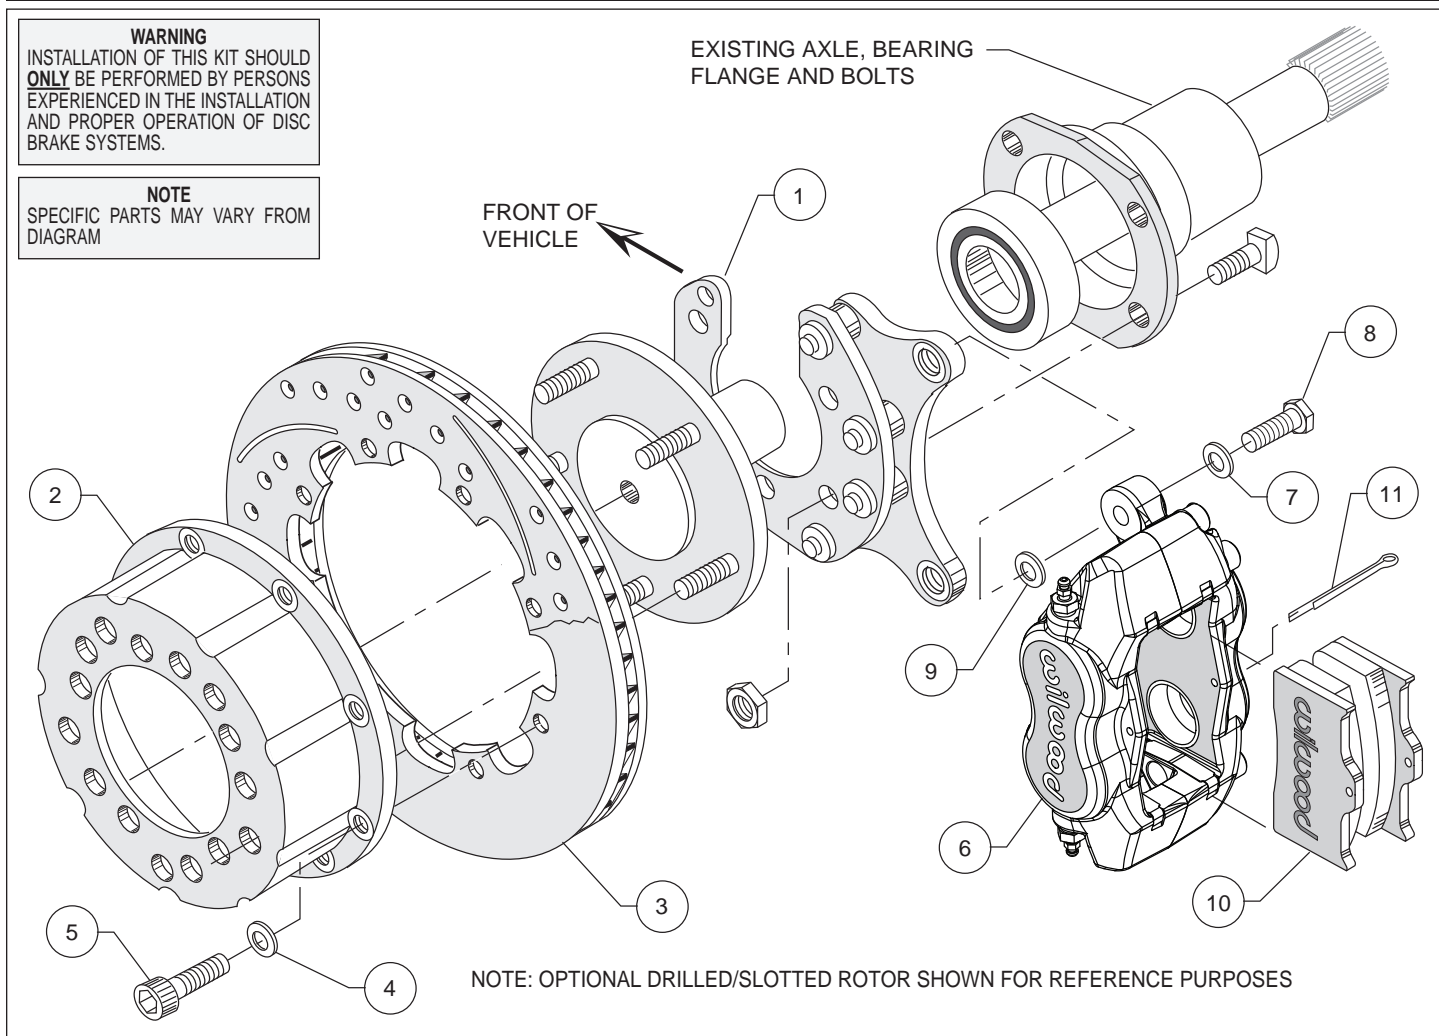
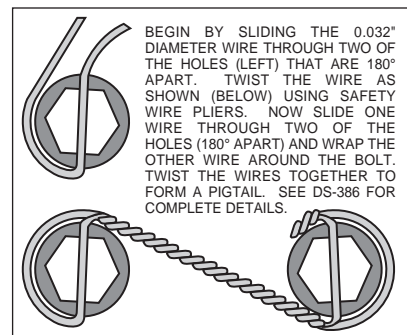
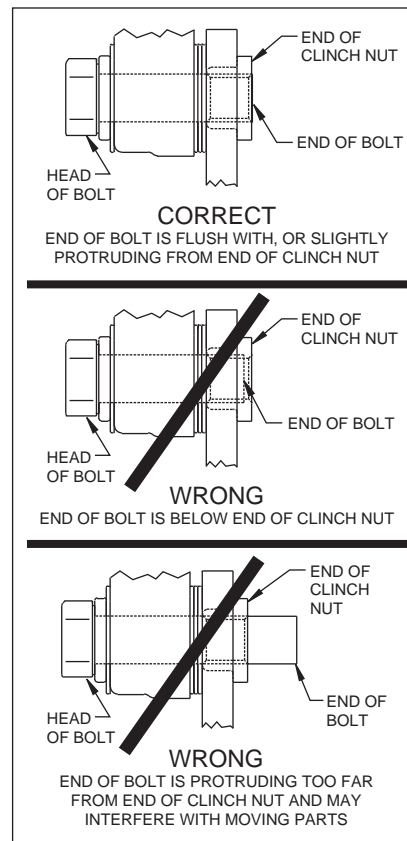

Figure 1. Typical Installation Configuration
Figure 4. Safety Wire Diagram
Figure 5.
Assembly Instructions (numbers in parenthesis refer to the part list/diagram on the preceding page): **CAUTION:** All mounting bolts must fully engage insert nuts. Be sure to check that all bolts are either flush or protruding through flanged side of insert nut after shimming, Figure 5.
- With the slot pointing upward and the mounting ears pointing towards the rear of the vehicle, install the caliper mounting bracket (1) to the housing flange using the stock Original Equipment Manufacturer (OEM) bolts and nuts. Stock OEM hex nuts that retain the bracket (1) should be on the wheel side of the bracket. Apply red *Loctite*® 271 to the stock OEM bolt threads and torque to OEM specifications. **NOTE:** Some brackets act as the bearing retainers, while others help locate the bearing in the axle housing flange. If the stock bearing plates are still on the axle, the caliper mounting brackets (1) should be located between the axle housing flange and the bearing retainer plate. Make sure the heads of the caliper mounting bracket insert nuts are FACING OUTWARD TOWARDS THE WHEEL.
- Orient the rotor (3) and the hat (2) as shown in Figure 1. Attach rotor to hat using bolts (5) and washers (4). Using an alternating sequence, apply red *Loctite*® 271 to the threads, and torque bolts to 180 **in-lb**. Safety wire bolts (5) using standard 0.032 inch diameter stainless steel safety wire as shown in Figure 4. Please refer to Wilwood's data sheet DS-386 (available at www.wilwood.com/Pdf/DataSheets/ds386.pdf) for complete safety wire installation instructions.
- Align the correct hole pattern in the hat (2) with the stud pattern on the axle flange. **NOTE:** Some OEM and after market axles come with stud sizes larger than 0.50" diameter. Verify stud size and have a qualified machine shop drill the hats to the correct size. Slide the hat/rotor assembly (2 and 3) over the wheel studs and against the axle flange face.
- NOTE:** Please reference the caution statement at the beginning of the assembly instructions. WITH THE BLEED SCREWS POINTING UP, mount the caliper (6) over the rotor (3) and onto the caliper mounting bracket (1) using washers (7) and mounting bolts (8). View the rotor through the top opening of the caliper. The rotor should be aligned in the center of the caliper. If not, adjust the caliper by using 0.032 inch shim washers (9), placing them between the caliper mounting bracket (1) and the caliper (6). Add as many shim washers (9) as necessary to achieve the correct alignment. **NOTE:** The end of the bolt must be flush with or slightly protruding from the head of the clinch nut. See Figure 5. Place spare shims (9) between washer and caliper mounting ear to achieve the proper mounting fastener configuration. Always use the same amount of shims on both the top and bottom caliper mounting bolts (8). Apply red *Loctite*® 271 to the mounting bolt threads (8), torque bolts to 30 ft-lb. Safety wire the caliper mounting bolts (8).
- Position the Wilwood disc brake pads (10) into the caliper (6) and fasten with cotter pin (11). Steel backing plate side of brake pad should face the caliper pistons.